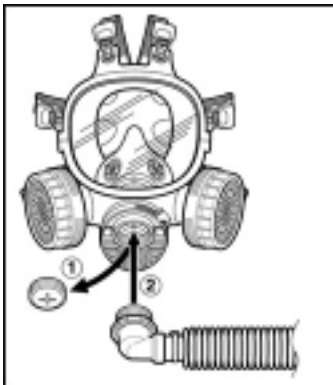

Fig. 11
1. Remove Full Face Plug 7890 and screw in 3M™ Breathing Adapter Tube W-3264 into center opening. (Fig. 11)